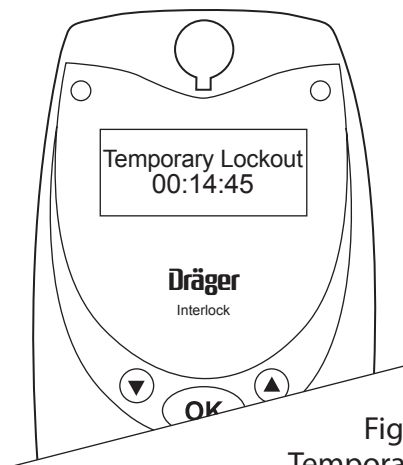

Figure 5
- The display will show you how much time (hours, minutes and seconds) remain in the "**Temporary Lockout**" period as shown in Figure 5. The red LED light will also be on.